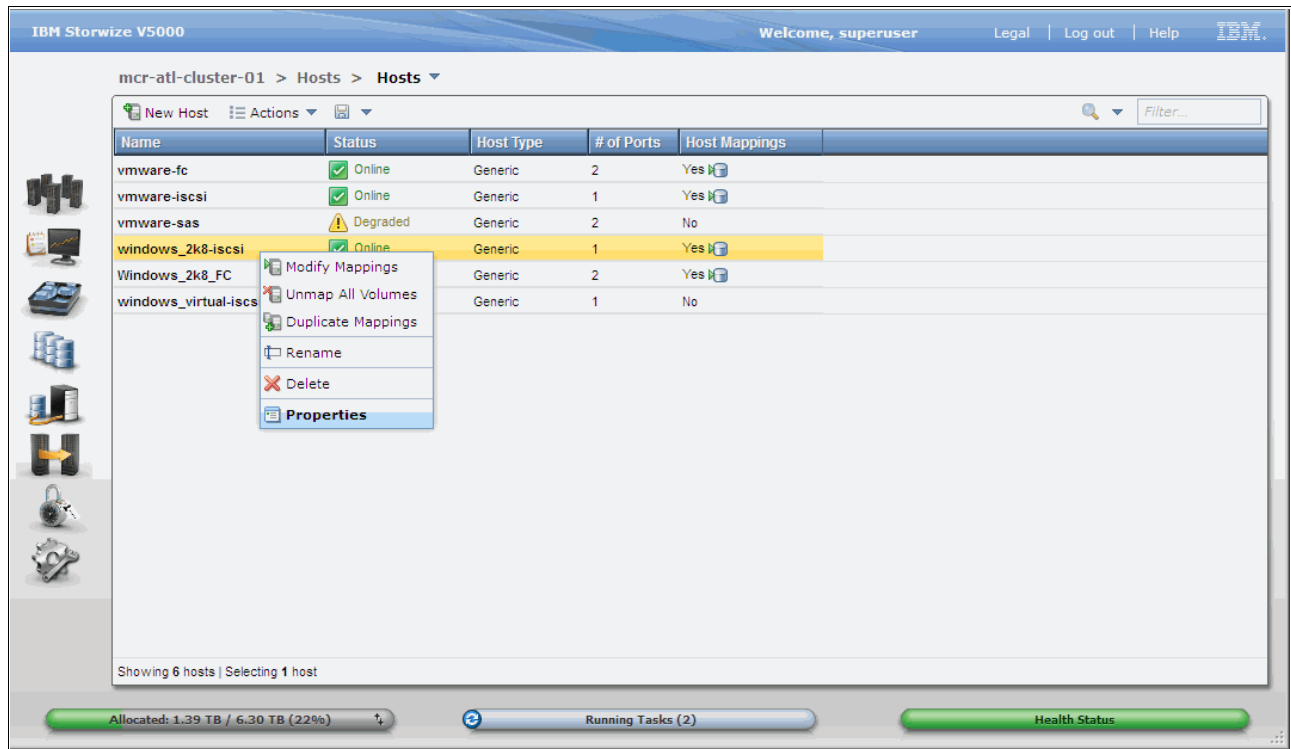

Figure 5-45 All Hosts view
1. Right-click your Windows 2008 iSCSI host in the Hosts view and click **Properties**, as shown in Figure 5-45.